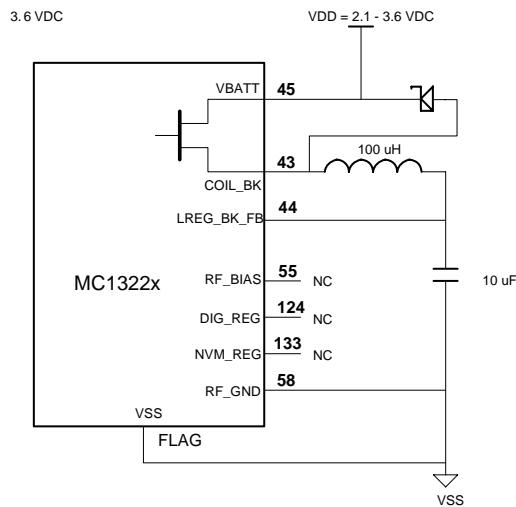

Figure 3-2. Varying VDD from 2.1 - 3.6 VDC Using Buck Regulator
For some battery-based applications, an optional, onboard buck regulator is provided to help maximize battery life. Figure 3-2 shows the configuration of the buck regulator. Onboard MOSFETs are used to switch an external inductor and capacitor as a synchronous-rectifier regulator when enabled. The buck regulator drops the higher battery voltage to about 2.0Vdc that is applied to the onboard linear regulators. This allows lower net current from the battery to maximize the life of the battery.
- Device start-up from reset/POR - The circuit configuration of Figure 3-2 presents a conundrum for start-up: the NVM must be powered to allow the boot process to read the NVM, load RAM, and start executing from RAM. However, the default for power supply configuration is VBATT selected (PWR_SOURCE[1:0] = 0b00), where LREG_BK_FB is normally tied directly to the NVM regulator input. This allows the regulator to be enabled to access the NVM.